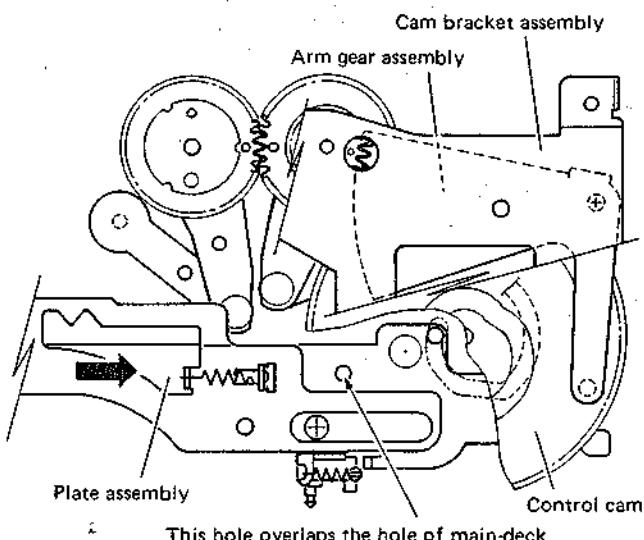

Fig. 1-3-4 Cam bracket assembly
- Push and hold the plate assembly so that the hole of the plate assembly overlaps the hole of the main-deck, as shown in Fig. 1-3-4.